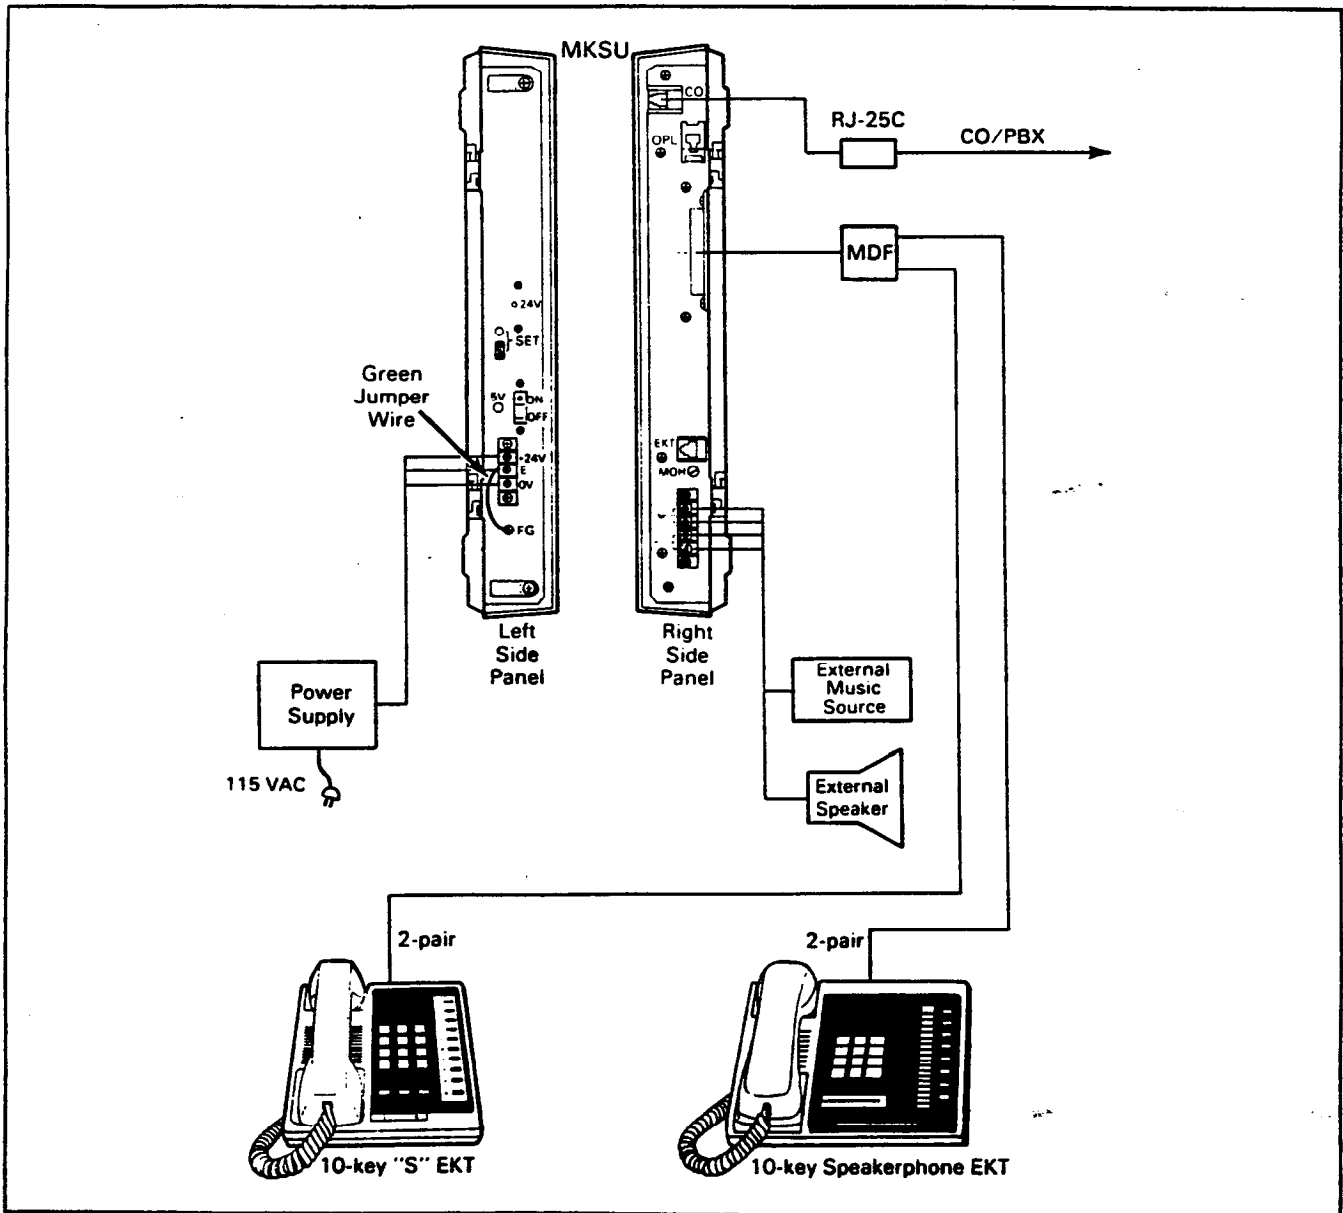

FIGURE 12—SYSTEM DIAGRAM
09.01 One 66MI-50 split connection block (Figure 12) is recommended as the **Strata S** main distribution frame (MDF).